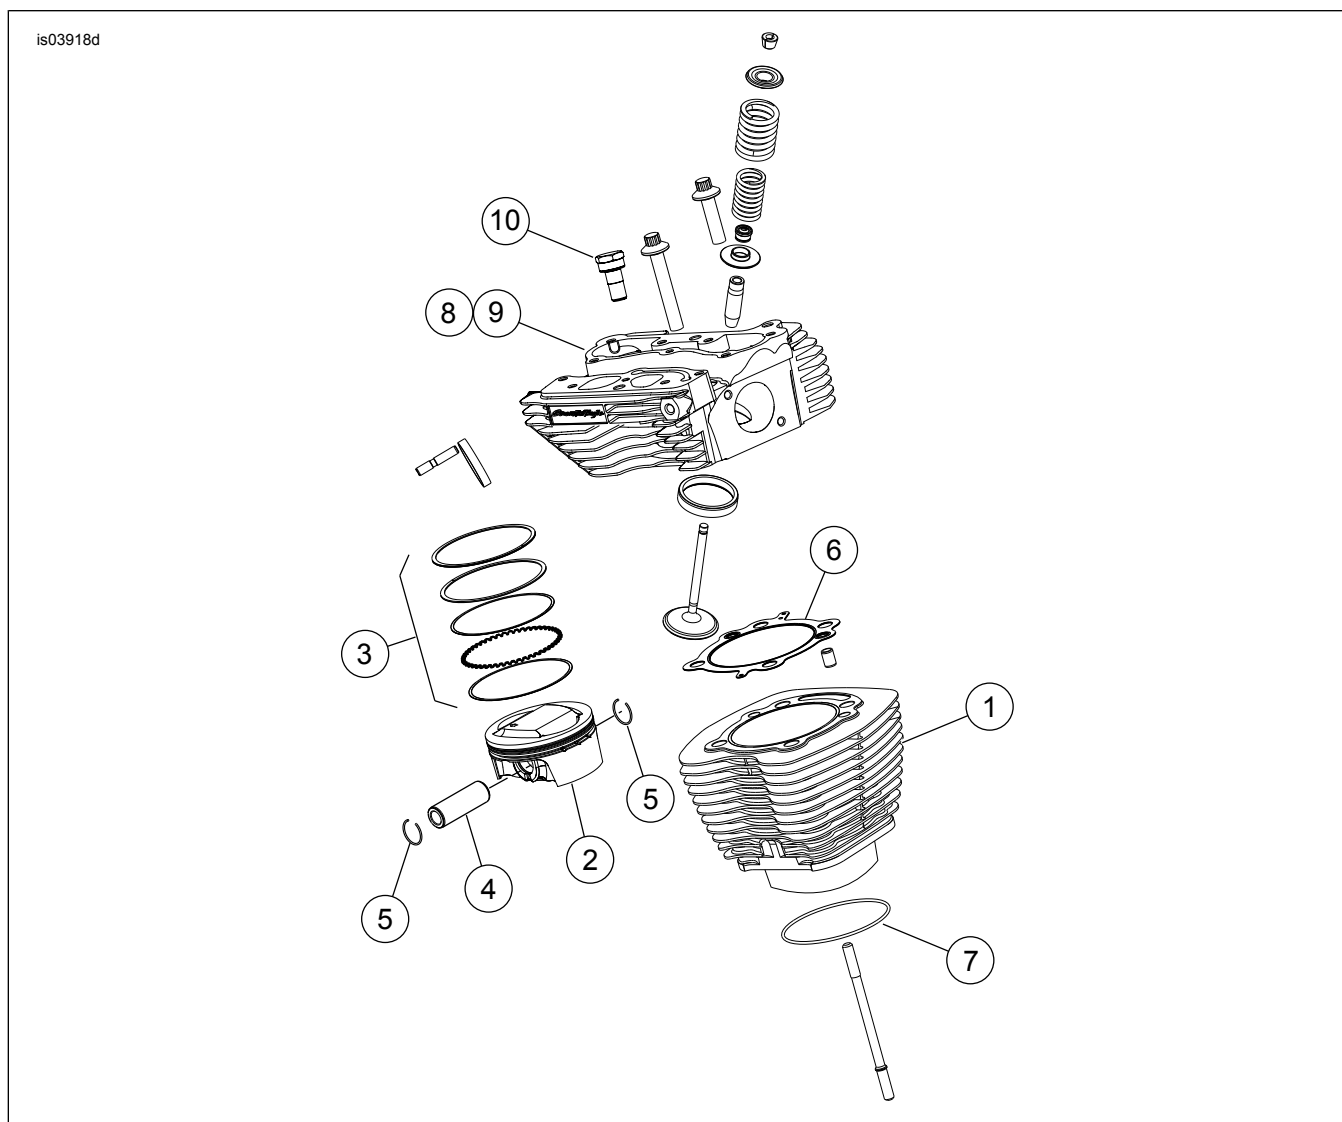
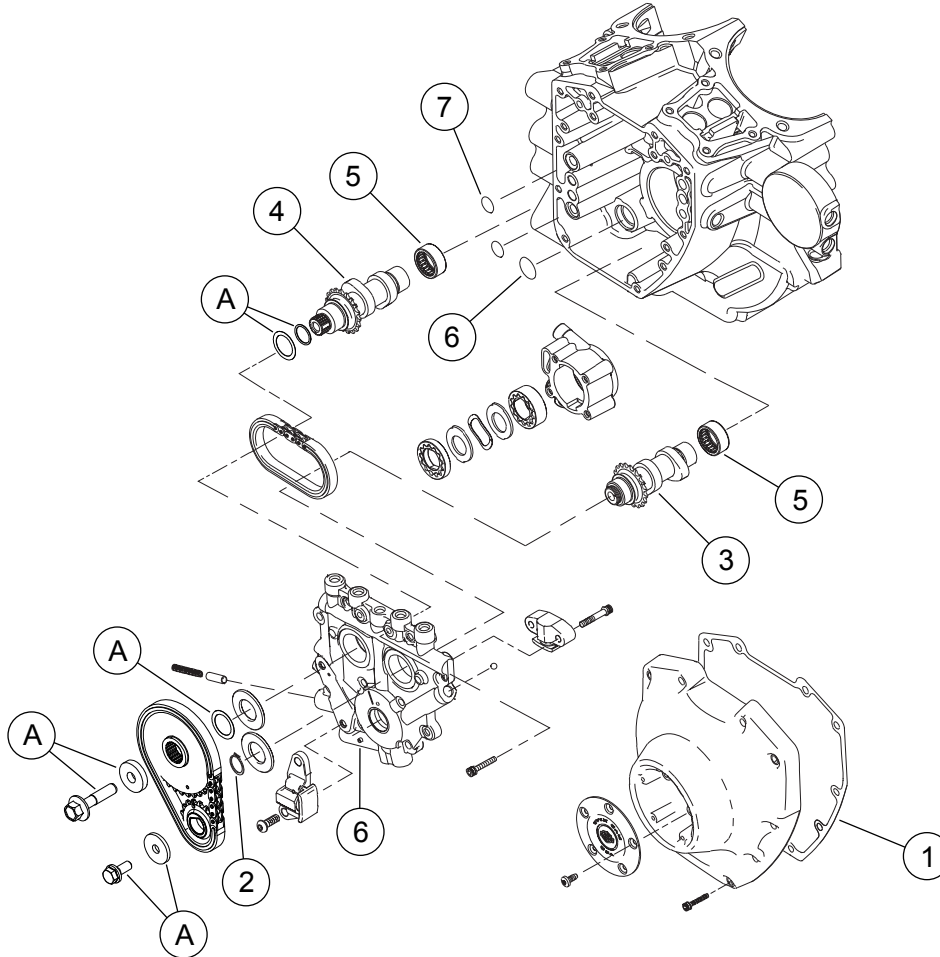

Figure 1. Service Parts: Screamin' Eagle Pro TC 103 CI Stage 4 Kit
Figure 3. Service Parts: Screamin' Eagle Pro TC 103 CI Stage 4 Kit
See Figure 1 to Figure 3, and Table 1 to Table 3.
1. See Figure 3. Inspect camshaft needle bearings (5) and replace if necessary.
2. See Figure 1 through Figure 3. Assemble cams to cam plate, performance cylinder heads and engine top end using parts from kit. Refer to appropriate ENGINE sections in service manual.